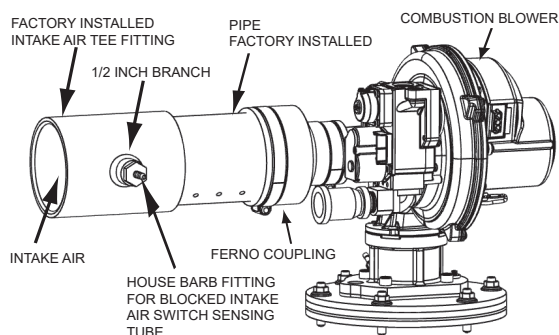

Figure 22. Intake Air Connection
15. If installing a 2 or 4 inch diameter intake air pipe, transition to three-inch pipe at the intake air connection on the water heater as shown in **Figure 22**. The field installed three-inch pipe between the intake air connection and the reducer coupling should be 18 inches (45 cm) or less in length.